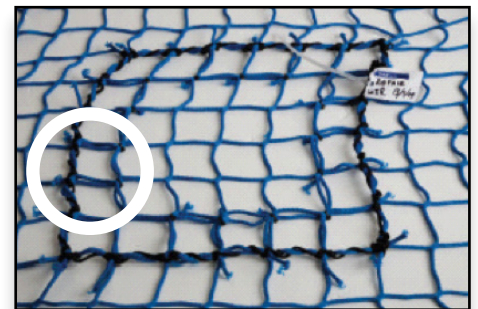

Figure 2
- using cable ties to attach the inside (only) mesh of the patch and then lacing the perimeter meshes (figure 2)